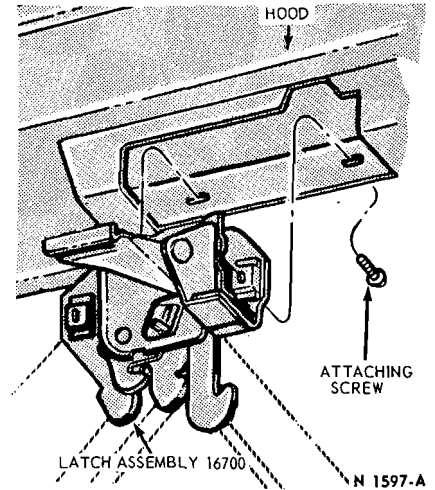

FIG. 3—Typical Hood Latch—
1. With the hood open loosen the hood latch retaining screws (Fig. 3).